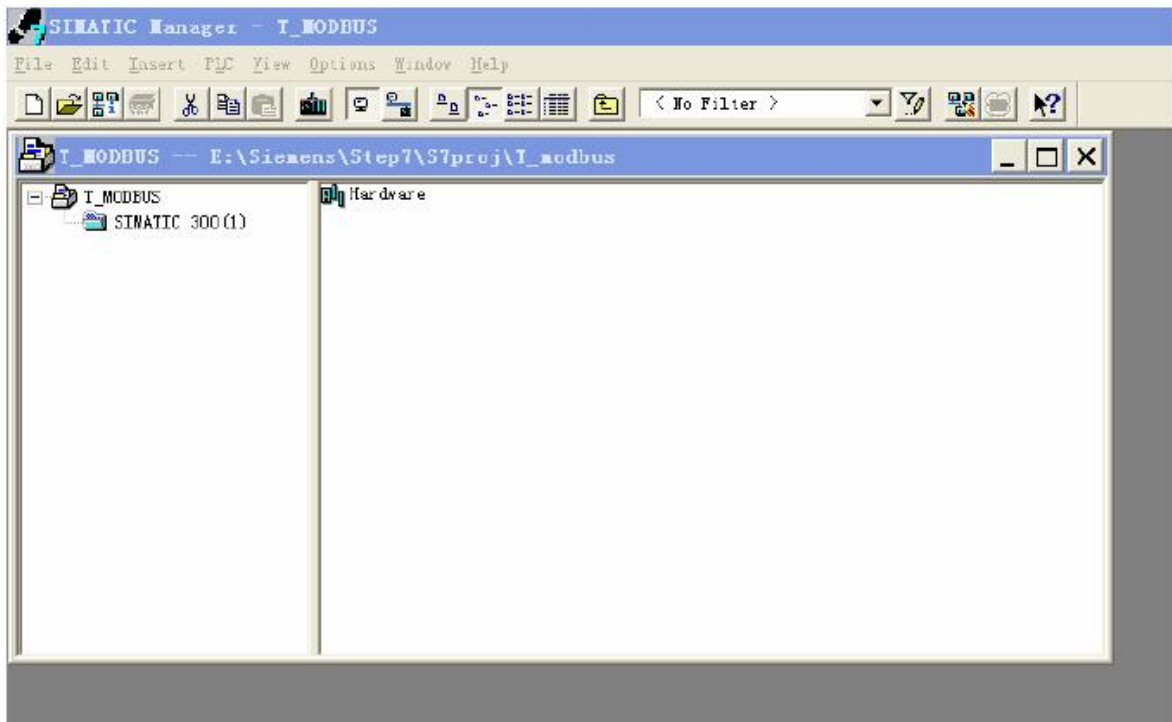

Figure 4
Open SIMATIC 300(1) and then double-click Hardware; Figure 4: